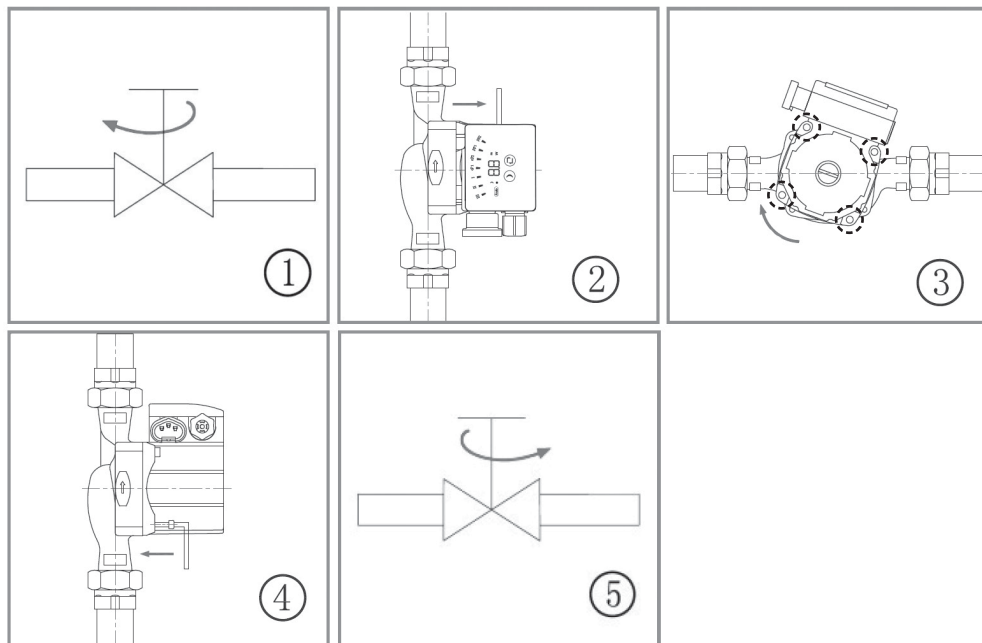

Figure 4.
2. Unscrew and remove the 4 screws securing the electric panel of the pump. (location is marked in image 3 of **Figure 4.**)